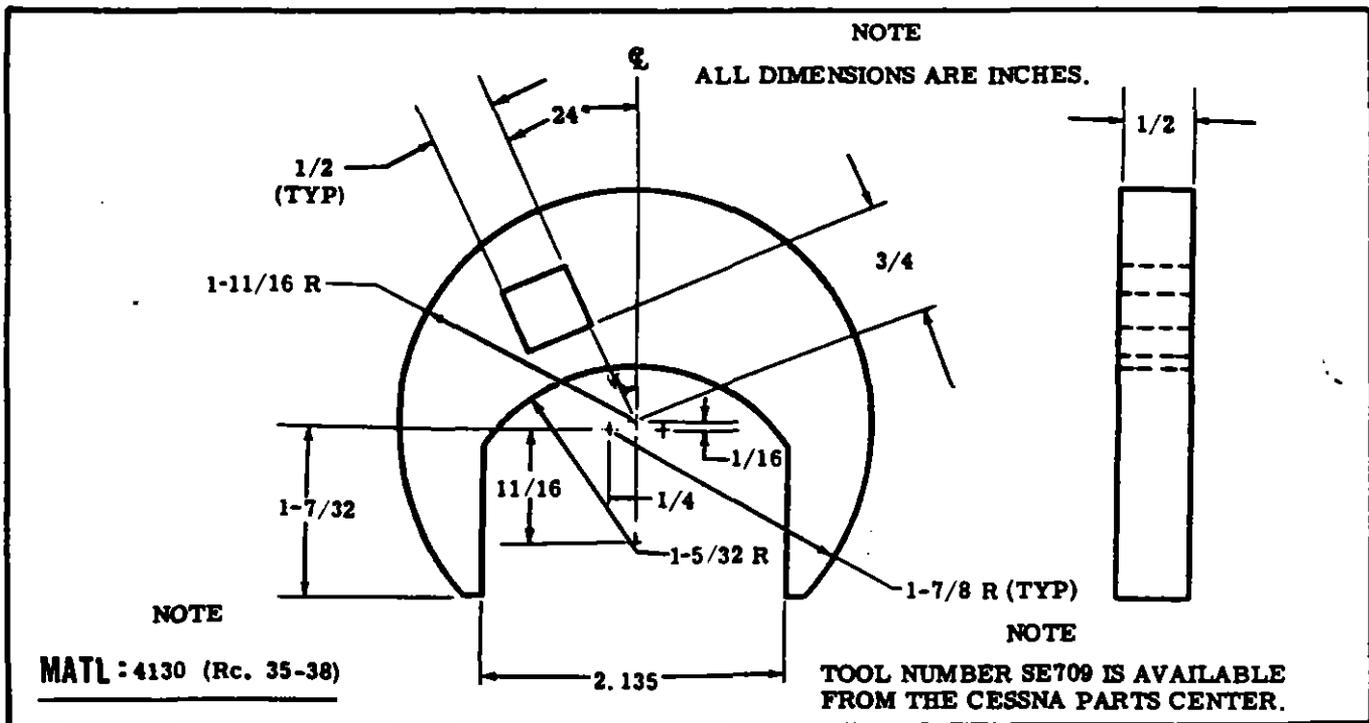

Figure 12-4. Oil Filter Adapter Wrench Fabrication
A special wrench adapter for adapter nut (14) (Part No. SE-709) is available from the Cessna Supply division, or one may be fabricated as shown in figure 12-4. Remove any engine accessory that interferes with removal of the adapter.
- b. Note angular position of adapter (11), then remove safety wire and loosen adapter nut (14).
- c. Unscrew adapter and remove from engine. Discard adapter O-ring (15).
- a. Assemble adapter nut (14) and new O-ring (15) on adapter (11) in sequence illustrated in figure 12-4.
- c. Apply anti-seize compound sparingly to the adapter threads, then simultaneously screw adapter and adapter nut into engine until O-ring seats against engine boss without turning adapter nut (14). Rotate adapter to approximate angular position noted during removal. Do not tighten adapter nut at this time.